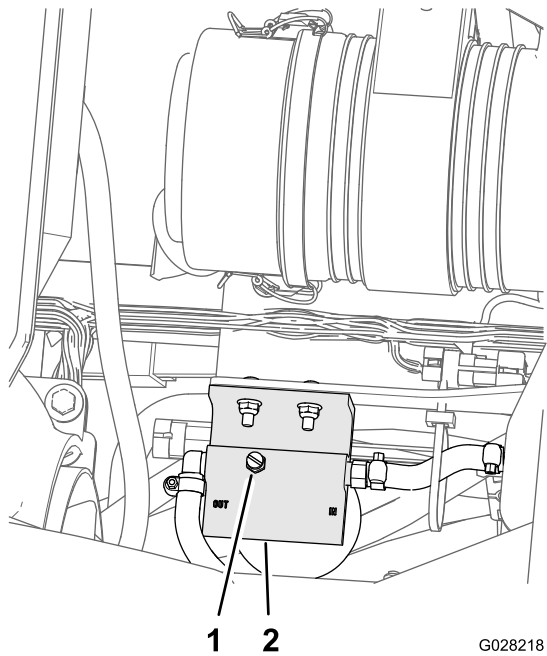

Figure 73
5. Loosen the vent plug at the top of the fuel/water separator (Figure 73).
7. Tighten the vent plug (Figure 73) and turn the starter switch to the OFF position.